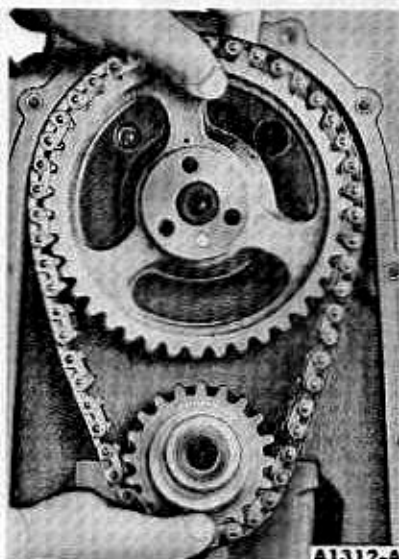

FIG. 14—Camshaft Sprocket and Timing Chain Removal or Installation
2. Remove the camshaft sprocket and timing chain (Fig. 14).